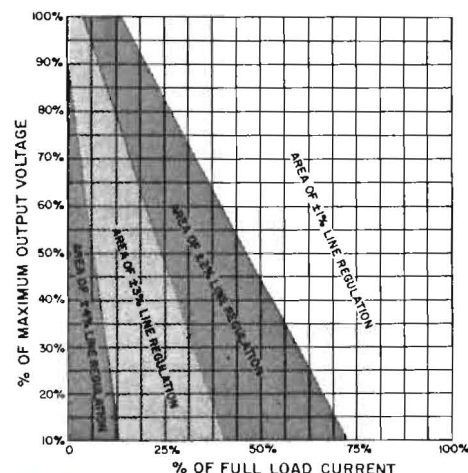

FIGURE 4 LINE REGULATION, 1-PHASE MODELS AS A FUNCTION OF OUTPUT VOLTAGE AND LINE CURRENT
**LINE** Less than  $\pm 1\%$  output voltage change for  $115V \pm 10V$  AC line variation at any output voltage within the load range specified in Figure 4. For models with 3-phase input, line regulation is  $\pm 2\%$  for line variations of  $\pm 10\%$ .